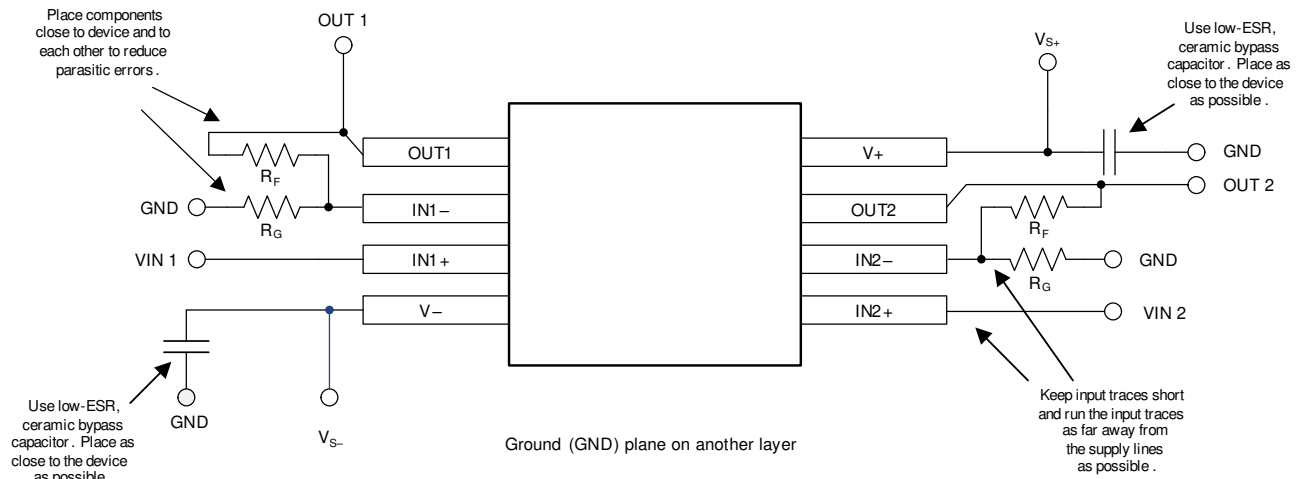

Figure 68. PCB Layout Example
- Use bypass capacitors to reduce the noise coupled from the power supply. Connect low ESR, ceramic, bypass capacitors between the power-supply pins (V+ and V-) and the ground plane. Place the bypass capacitors as close to the device as possible with the 100-nF capacitor closest to the device, as indicated in Figure 68. For single-supply applications, bypass capacitors on the V- pin are not required.
- Place the external components as close to the device as possible. As illustrated in Figure 68, keeping RF, CF, and RG close to the inverting input minimizes parasitic capacitance.